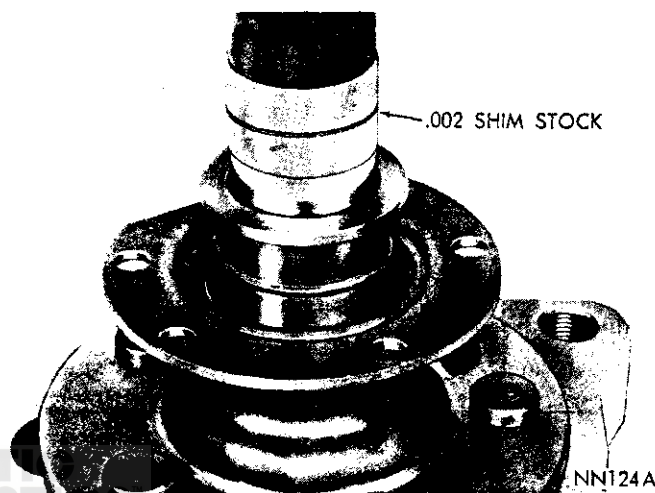

Fig. 11—Seal Journal Protection
(6) To avoid scuffing seal journal when bearing cone is being removed, it should be protected by single wrap of .002 thickness shimstock held in place by a rubber band (Fig. 11).
(7) Remove the bearing cone using Tool C-3971